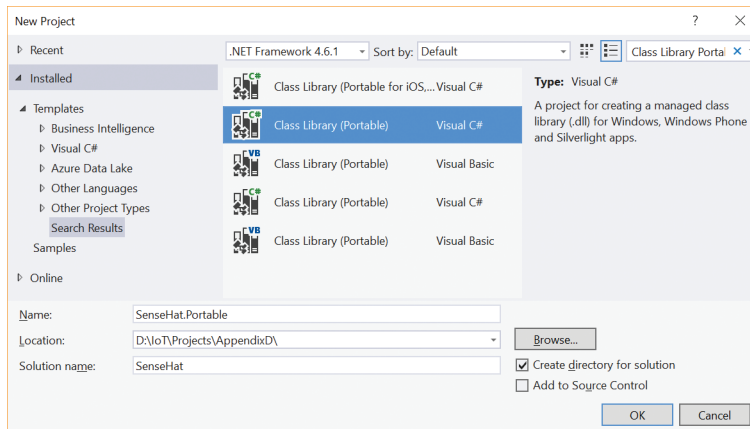

FIGURE D-2 The New Project dialog box for creating the SenseHat.Portable PCL.
4. Set the project name to **SenseHat.Portable** and the solution name to **SenseHat**. (See Figure D-2.) Then click **OK**.